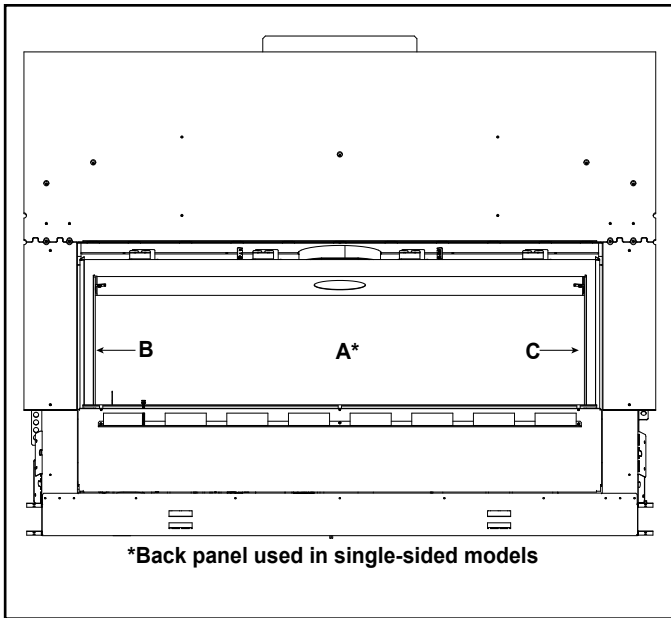

Figure 11.3 Placement of Glass Panels
#### Install back glass panel, labeled A in Figure 11.3
**Install left and right side glass panels, labeled B and C in Figure 11.3**
#### Install left and right side glass panels, labeled B and C in Figure 11.3